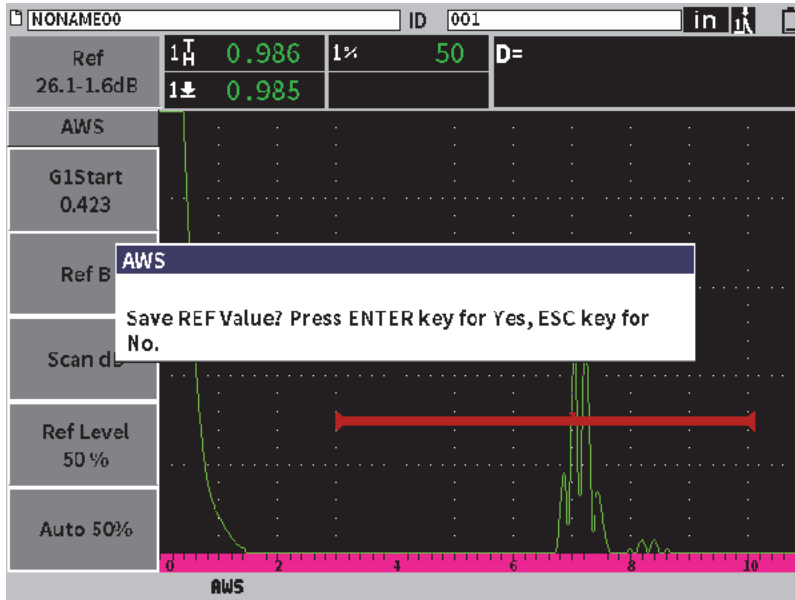

Figure 11-26 AWS Ref B value dialog box
9. Press the Tab key to highlight **Ref B**, and then press Enter to set a **Ref B** value to begin the AWS inspection (see Figure 11-26 on page 184).